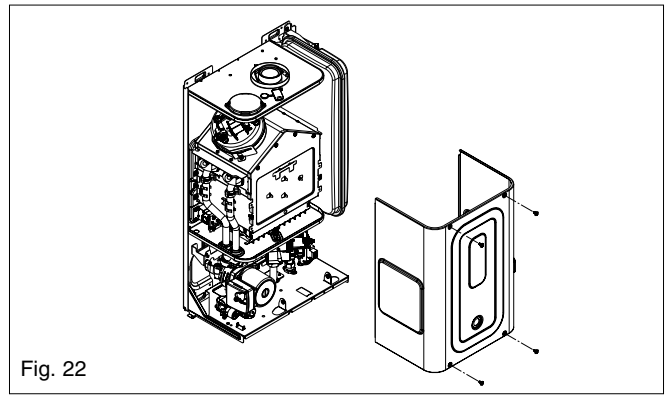

Fig. 22
6.4.1 AIR BOX FRONT COVER REMOVAL (fig. 22)
Carry out component removal procedure as described in 6.4. Unscrew and remove the air box front cover (fig. 22). Locate and remove the six screws around the inner combustion cover and remove. Disconnect the spark plug cable connection, slide off the lower cable grommet from the seat of the air distribution box, remove the burner fixing screws and remove with the spark plug attached and corresponding cables. Replace in the reverse order.
Carry out component removal procedure as described in 6.4. Unscrew and remove the air chamber front cover (fig. 22). Locate and remove the six screws around the inner combustion cover and remove. Remove locking pins and disconnect the pipes, from the flow and return connections on the heat exchanger. Disconnect the hot and cold connections on the heat exchanger. Disconnect the electrical plugs from the primary thermistor, the heat exchanger can now be withdrawn from the appliance. Replace in the reverse order. Ensure all seals are in good condition, taking care to ensure they are replaced correctly.